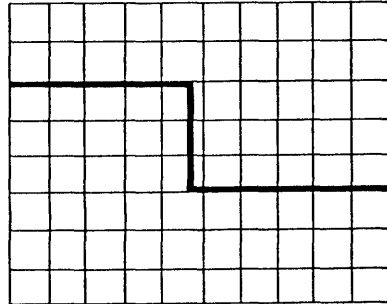

Figure 4-4. Positioner Step Timing Waveform
f. The positioner step timing will be as shown in figure 4-4. The positive portion of the waveform should be within the following limits: